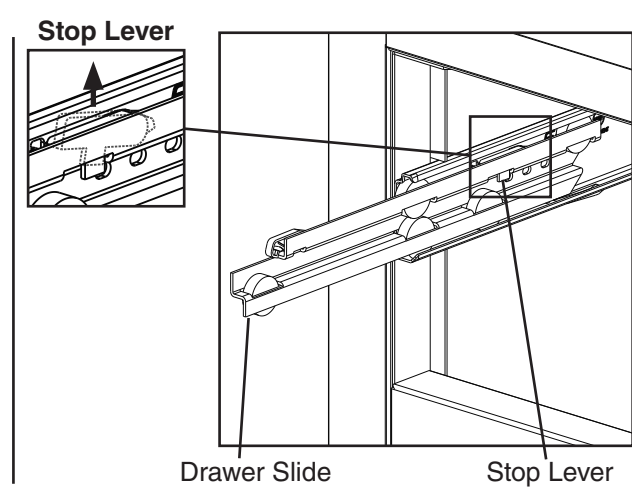

Fig. 22
- **To remove a drawer slide (center slide containing rollers):** Push up on the stop lever while pulling on the drawer slide. See Fig. 22. Drawer slides do not require lubrication, but drawer slides should be kept clean and free of food.